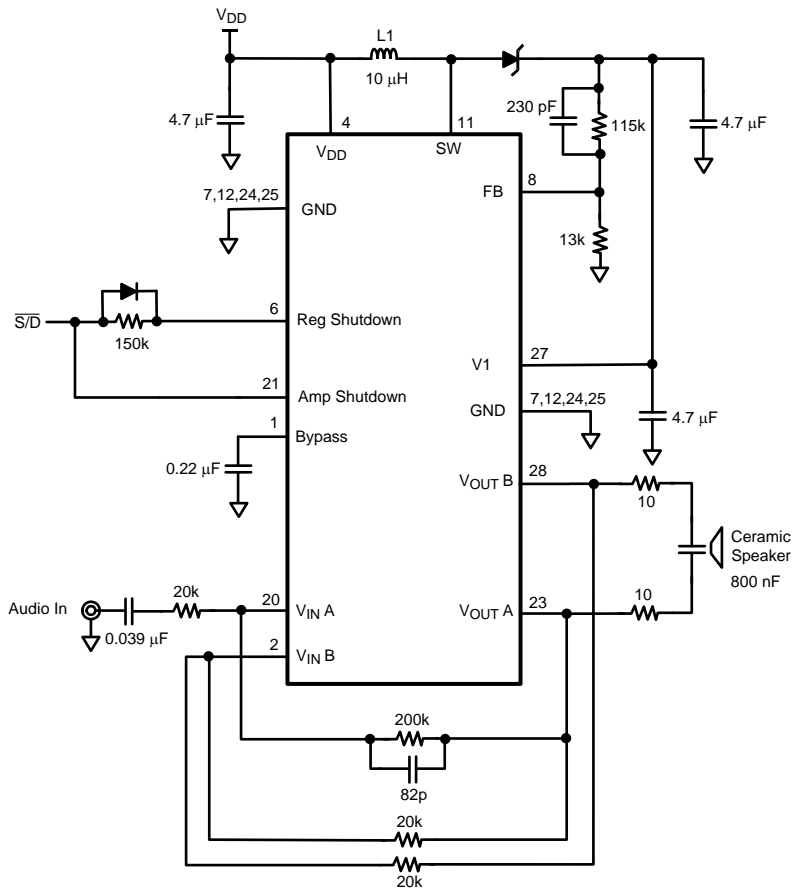

Figure 2. Typical Audio Amplifier Application Circuit
- The maximum power dissipation must be derated at elevated temperatures and is dictated by  $T_{JMAX}$ ,  $\theta_{JA}$ , and the ambient temperature,  $T_A$ . The maximum allowable power dissipation is  $P_{DMAX} = (T_{JMAX} - T_A) / \theta_{JA}$  or the given in Absolute Maximum Ratings, whichever is lower. For the LM4960 typical application (shown in Figure 2) with  $V_{DD} = 12V$ ,  $R_L = 4\Omega$  stereo operation the total power dissipation is 3.65W.  $\theta_{JA} = 35^\circ\text{C/W}$ .